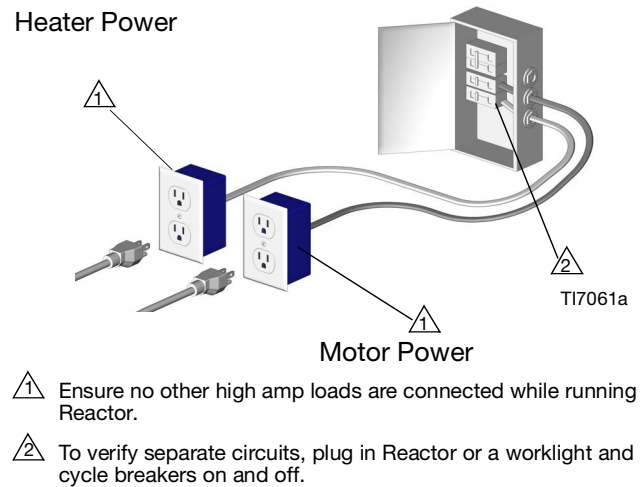

FIG. 4 Use Two Separate Circuits
1. Connect the Reactor to the correct power source for your model. See TABLE 4. Power cords must be connected to two separate, dedicated circuits. See FIG. 4.